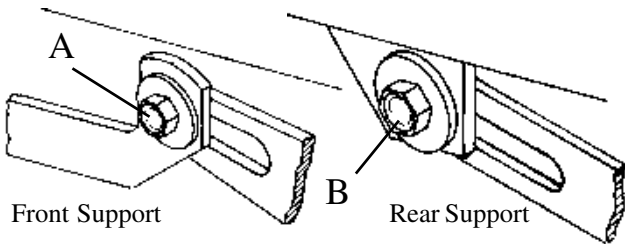

Figure 6.4 Cutterhead support plates
6. Remove the two front cutterhead support bolts (A) and lower the front of the cutterhead to the ground. Figure 6.4.
7. Remove the two rear cutterhead support bolts, (B), and lower the rear of the cutterhead to the ground.